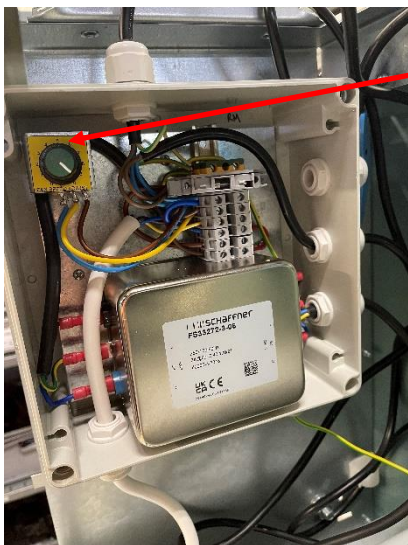

Fig 15
Set a suitable fan speed by adjusting the EC speed potentiometer (see Fig 15 RA Fig.16 RA MAX) to suit outdoor environmental conditions and indoor noise levels.
- Fan speed changes in accordance to the speed dial fixed within the unit (as shown in Fig 15 & 16).